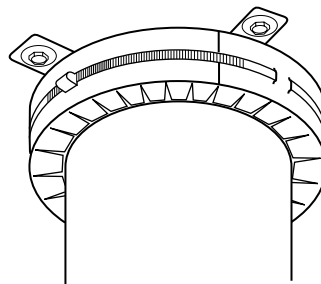

Fig. 2
5. Secure the PPD 6 to the anchoring surface with masonry fasteners and $1\frac{1}{4}$ -inch (31,8 mm) diameter fender washers in all of the mounting tabs (Fig. 2).